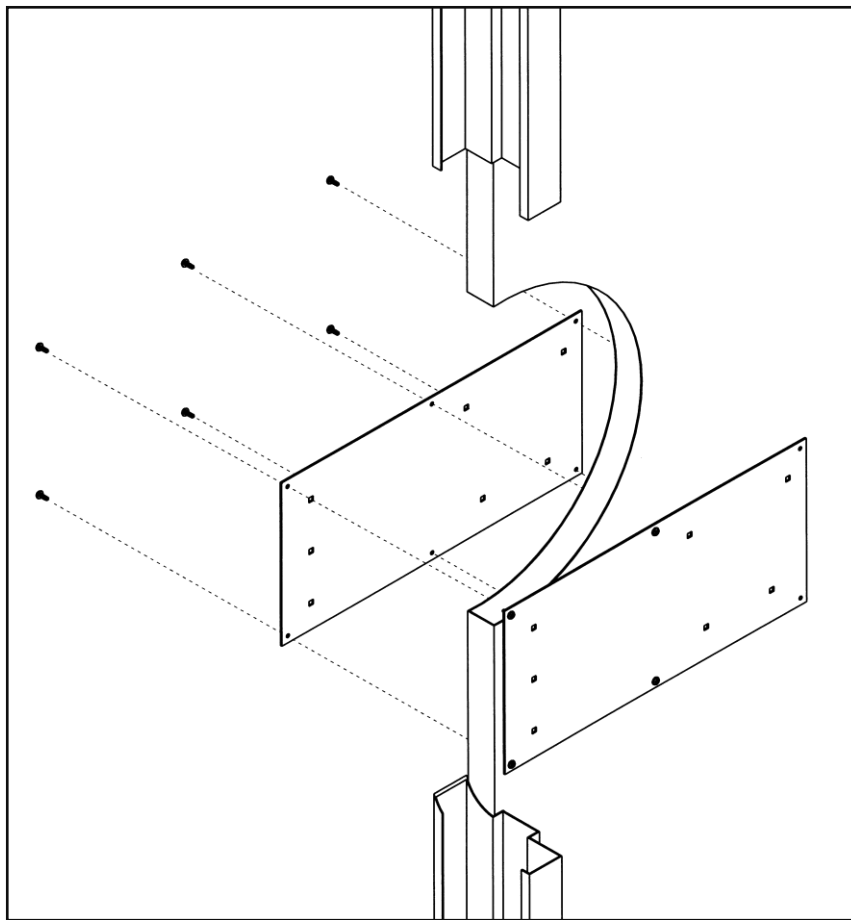

FIGURE 2
4. Attach the outside mounting plate by repeating steps 2 & 3. The outside mounting plate must align with the inside mounting plate - transfer your measurements from the inside mounting plate carefully (See Figure 2). Secure the outside mounting plate with the six (6) self-drilling torx screws.